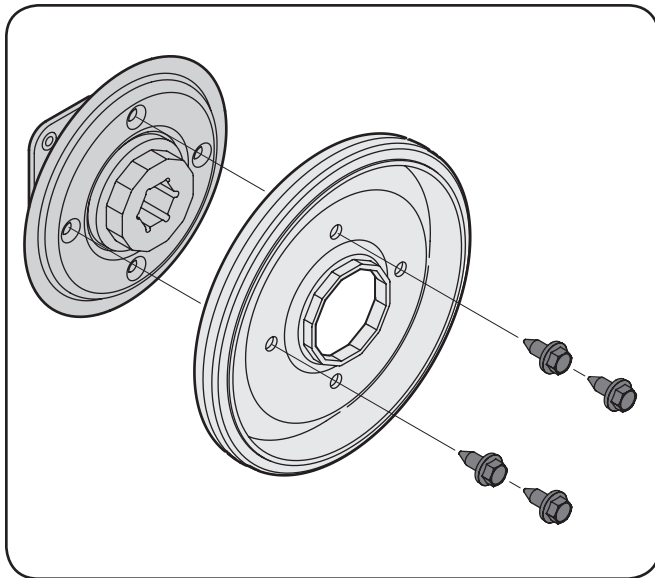

Figure 8-11
7. Remove four screws securing the friction wheel to the hub assembly (refer to Fig. 8-11). Discard old friction wheel.
8. Reassemble the new friction wheel onto the hub assembly, tightening the four screws in rotation and with equal force. It is important to assemble the friction wheel symmetrically for proper functioning. Refer to Fig. 8-11.